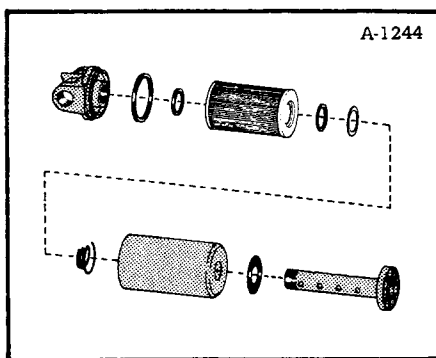

Fig. 113 Hydraulic Oil Filter
5. Reassemble the filter on the filter head. Figure 113 shows the relationship of parts. Check the quad-ring seal on the filter head for damage before reinstalling the can.